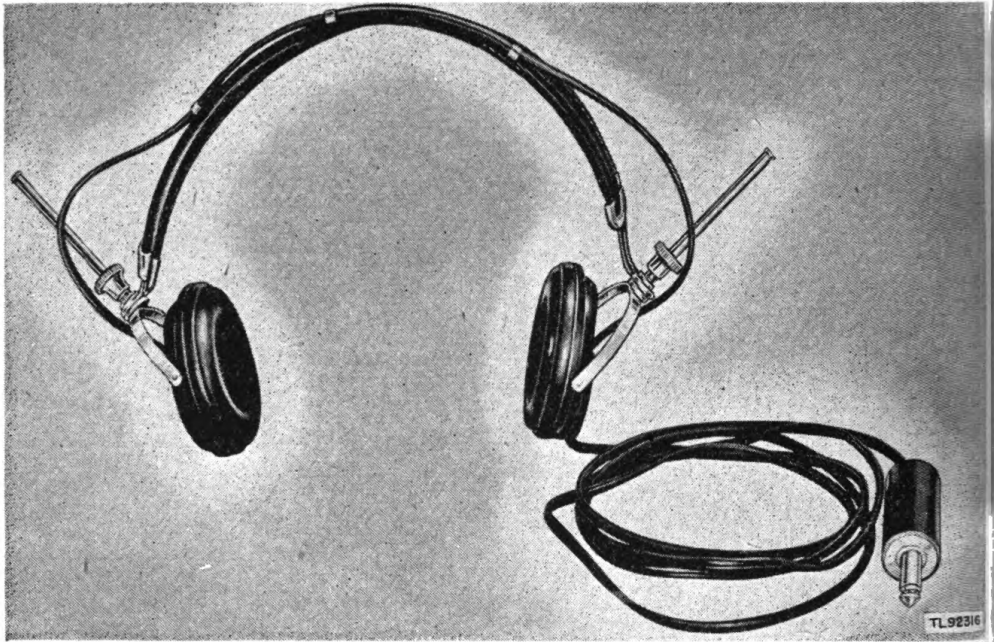

Figure 6. High impedance earphones (crystal type).
e. **EARPHONES** (fig. 6). One set of earphones is furnished with the sound recording set. Equipped with a 6-foot shockproof and moistureproof cord terminating in a phone type male plug, the earphones are used for monitoring or for private reproduction of a recording. The impedance of both phones is 40,000 ohms at 500 cycles. Crystal elements are used.